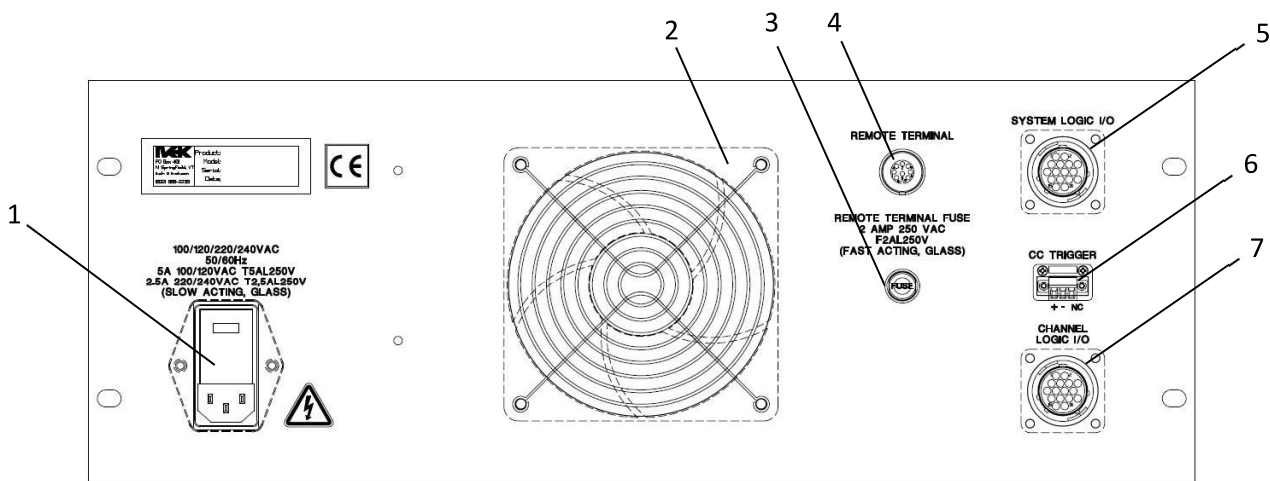
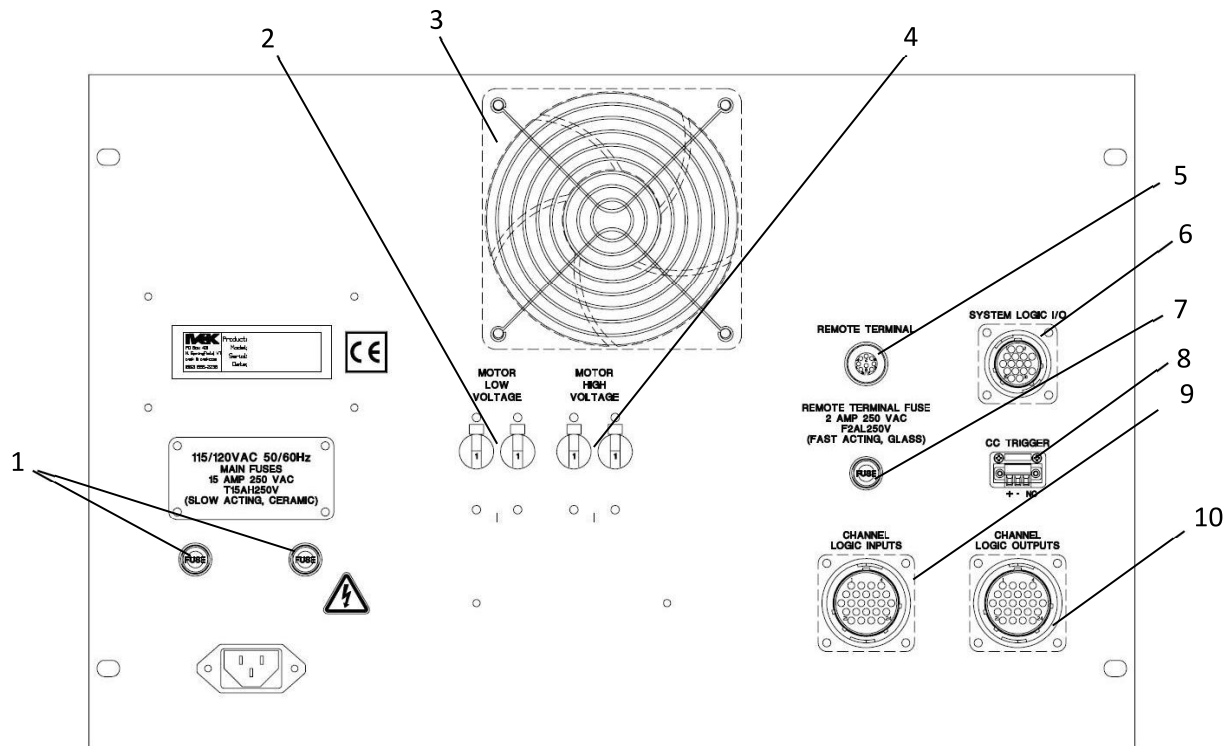

Figure 3.2A Multispense 2000 Style B 1 - 4 Channel Controller Module Rear Panel
Figure 3.2B Multispense 2000 Style B 5 - 8 Channel Controller Module Rear Panel
The rear panel of your Controller Module will look similar to either Figure 3.2A or Figure 3.2B. If your system is 4 or fewer channels it will look similar to Figure 3.2A. If your system is 5 or more channels it will look similar to Figure 3.2B.
3.1.2.1 Power Entry Module (Figure 3.2A Item 1)
3.1.2.2 Fan (Figure 3.2A Item 2 and Figure 3.2B Item 3)
3.1.2.3 Remote Terminal Fuse Holder and Fuse (Figure 3.2A Item 3 and Figure 3.2B Item 7)
3.1.2.4 Remote Terminal Connector (Figure 3.2A Item 4 and Figure 3.2B Item 5)
3.1.2.5 System Logic I/O Connector (Figure 3.2A Item 5 and Figure 3.2B Item 6)
3.1.2.6 CC Trigger Connector (Figure 3.2A Item 6 and Figure 3.2B Item 8)
3.1.2.7 Channel Logic I/O (Figure 3.2A Item 7) and Channel Logic Inputs and Outputs Connectors (Figure 3.2B Items 9 and 10)
3.1.2.8 Power Cord, Main Fuse Holder and Fuse (Figure 3.2B Item 1)
3.1.2.9 Motor Low Voltage Circuit Breaker (Figure 3.2B Item 2)
3.1.2.10 Motor High Voltage Circuit Breaker(s) (Figure 3.2B Item 4)